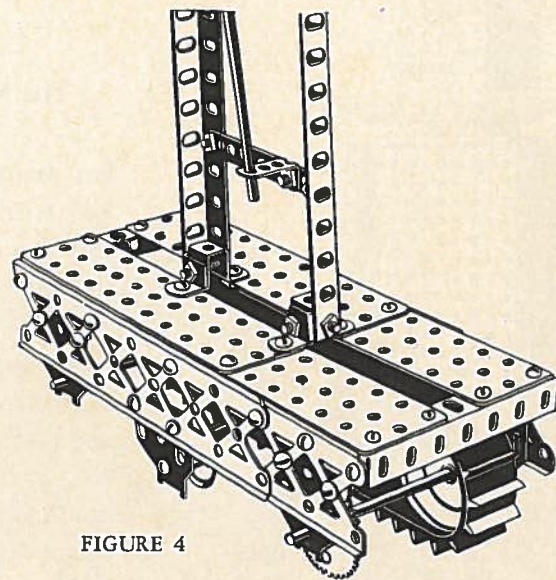

FIGURE 4
The leg for the model is made from 2 (DP) 12" angle girders. These are held together with 2 (H) 11 hole strips fastened to the girders but are free to move the length of the slots in the girder. Fastened to the bottom strip (H) is an (O) pawl, as shown in Figure 4. On the bottom of each girder is fastened a (CH) right angle with an S51 ¼ x 8-32 screw and N21 nut. A P20 5 hole strip formed is now fastened to each girder by passing an S62 7/8 x 8-32 screw through the (DP) girder, through one side of the P20 strip, through the (CH) angle and then through the other side of the P20 strip. Two N21 nuts should be tightened together as shown in Section 2, Standard Details of Erector construction in your Erector manual.
The legs can now be fastened to each foot assembly in the position shown in Figure 4.